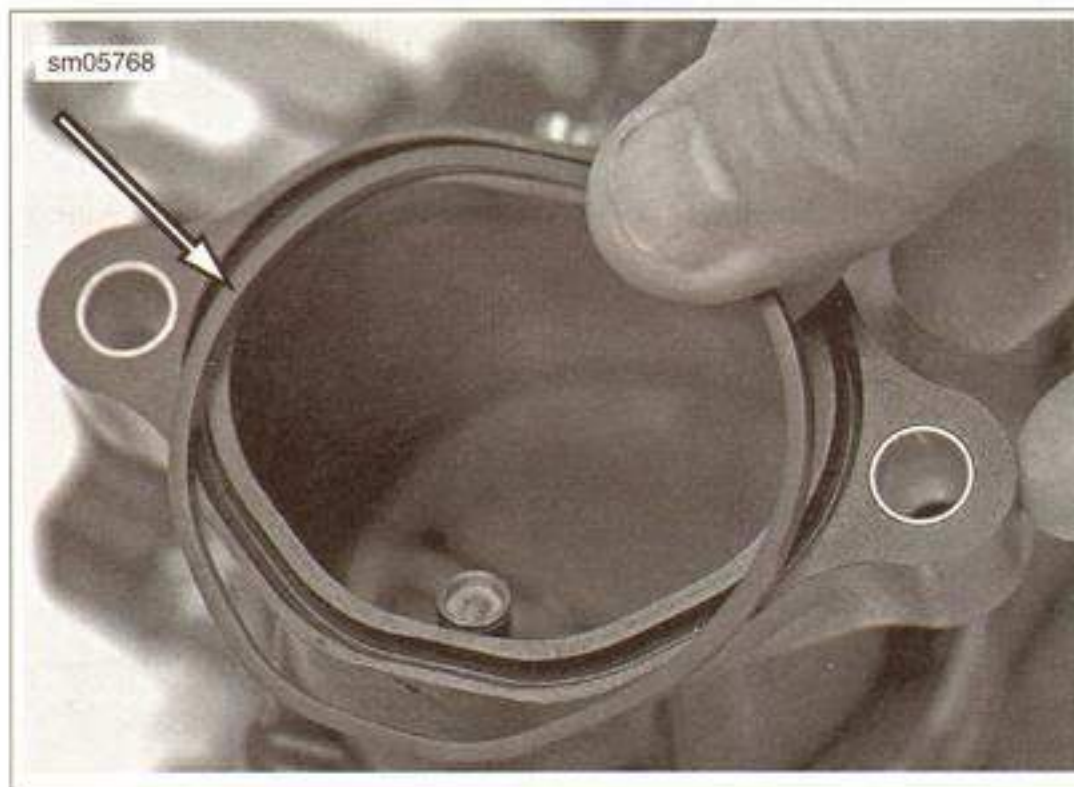

Figure 4-37. Intake Flange Gasket
1. See Figure 4-37. Place a **new** gasket in the groove of each intake flange.